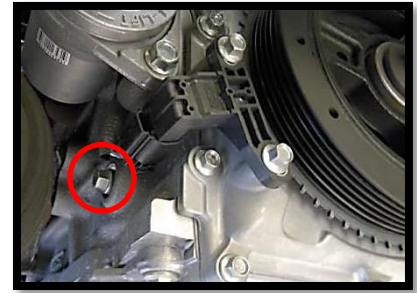

Figure 7a
- a) Replace the TDC locator plug (red circle in Figure 7a).